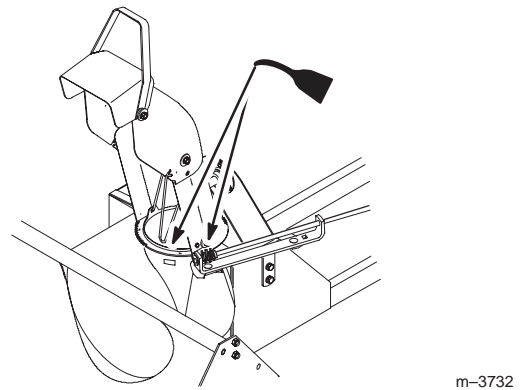

Figure 36
3. Place a few drops of oil on the discharge chute rotator shaft and discharge chute mounting (Fig. 36).